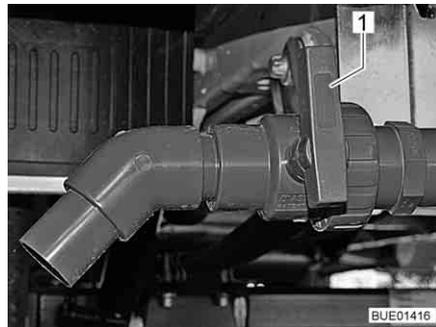

Fig. 228 Drain cock (Viseo)
- Turn the handle (Fig. 228,1) of the drain cock in flow direction.